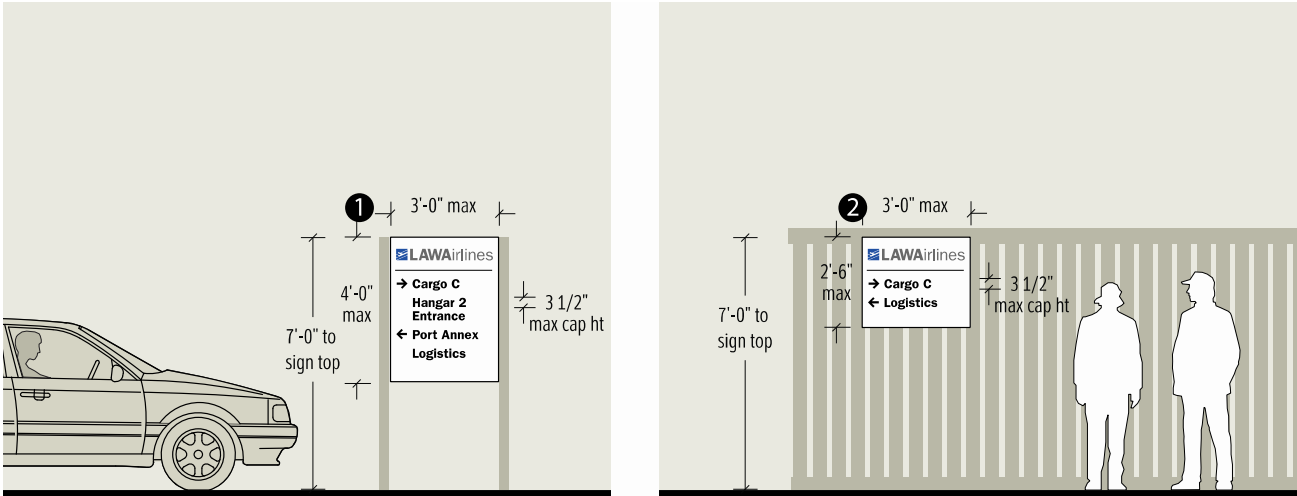

Figure 6d: Directional signs guide vehicular traffic to tenant buildings when other such signs do not exist.
①② See Figures 6d. ③ See Figure 6e.